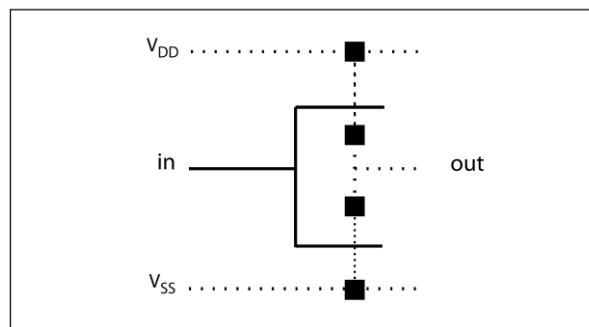

Figure 17: Stick diagram for an inverter
- ✓ The stick diagram resembles the actual layout, but uses "sticks" or lines to represent the devices and conductors. Figure 17, shows a stick diagram for an inverter.